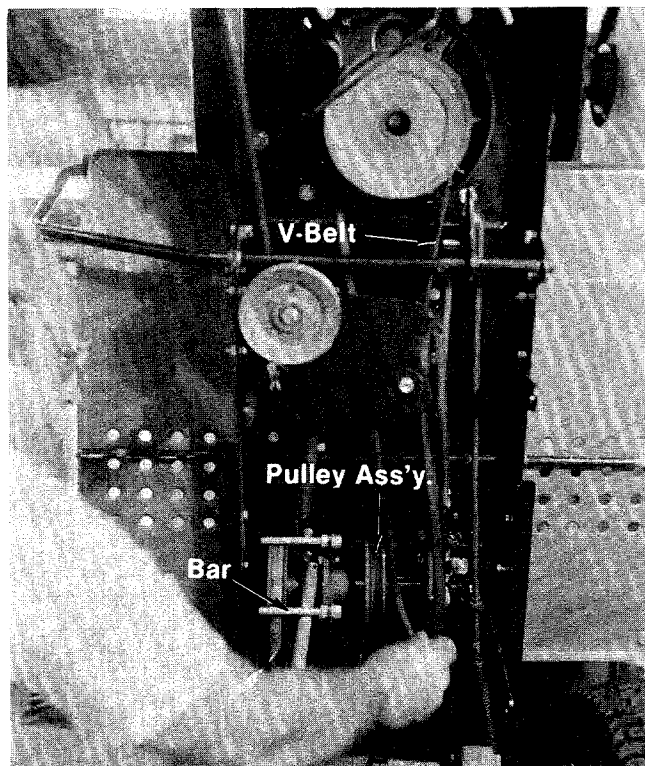

FIGURE 23.
5. Using a bar or large screw driver, pry the pulley assembly towards the front of the tractor and unhook the belt from the pulley. (See figure 23.)